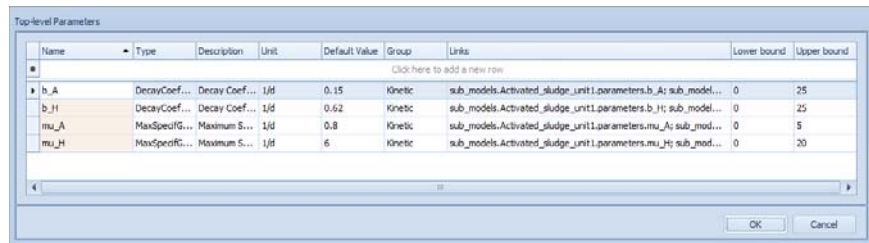

Figure 5.15 The top-level parameters dialog window, with a set of newly created top-level parameters
- In the Parameters dialog window (Figure 5.15), enter the parameter name and properties (cf. ‘Properties of Top-Level Parameters’ on page 169).
- All relevant properties will be filled up in the Parameters dialog window (Figure 5.15): modify the parameter properties, if necessary.